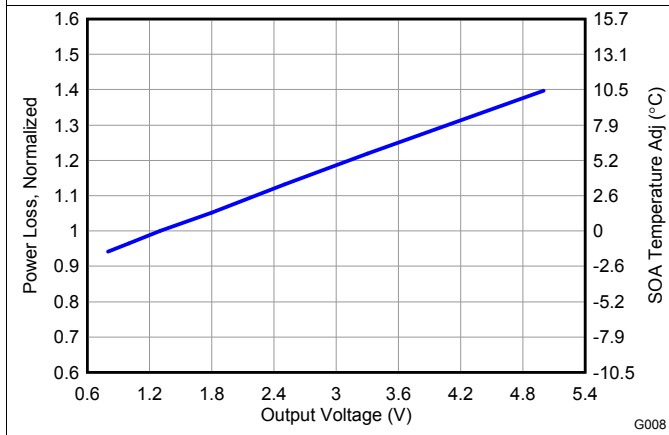

Figure 8. Normalized Power Loss vs Output Voltage
- Normalized Power Loss for output voltage ≈ 0.98 (Figure 8)
- SOA adjustment for output voltage $\approx -0.29^\circ\text{C}$ (Figure 8)